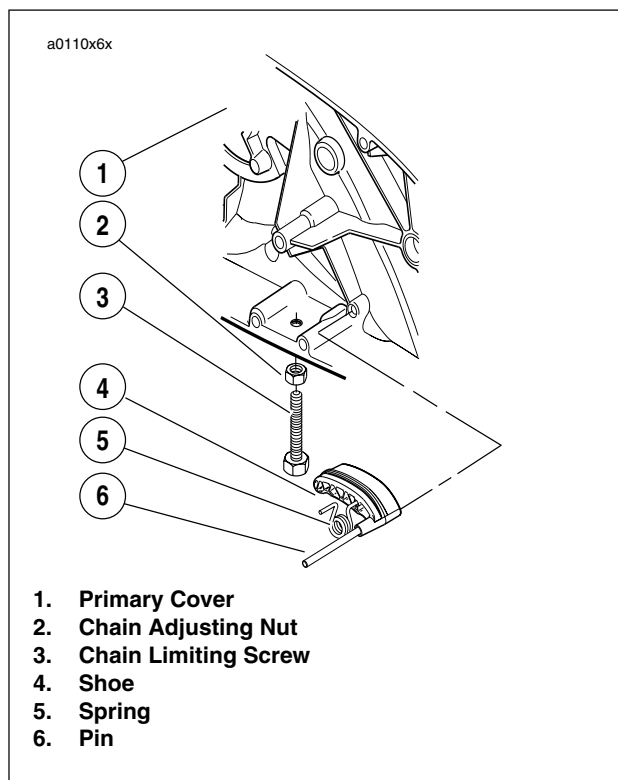

Figure 6-3. Primary Chain Adjuster
1. See Figure 6-3. If shoe is badly worn, replace it.